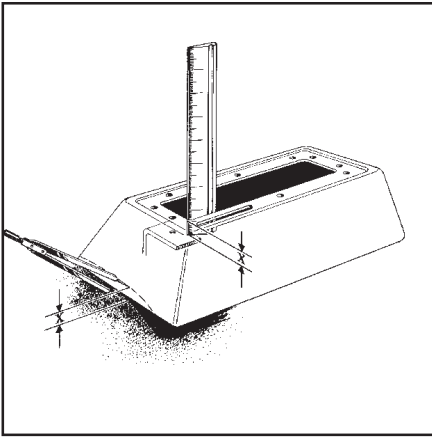

Figure 7
STEP 25. Place the black tower over the shifter mechanism until the bottom edge of the tower touches the floor. Hold the tower level to the shifter with the bottom of the tower touching the highest surface on the floor it will come into contact with (See **Figure 7**). Use a ruler to measure the distance X from the underside of the tower to the tower mounting brackets on the shifter mechanism.
STEP 26. Set a pair of dividers at the distance X, measured in **Step 25**. Holding the tower in position, place one leg of the divider against the floor while the other touches the tower (See **Figure 7**). Using the dividers, scribe a line around the tower that follows the contour of the floorboard. Remove the tower and trim at the scribe line using tin snips.